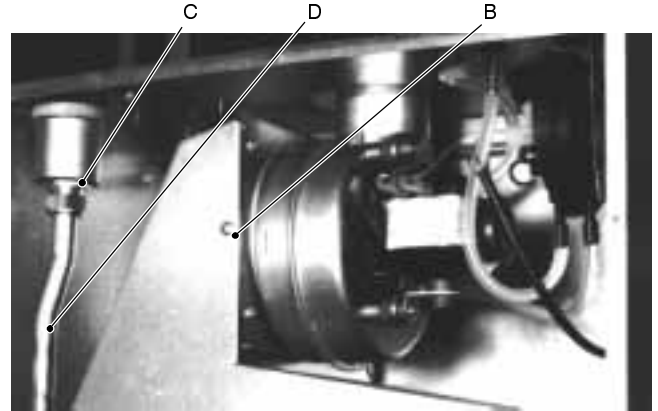

fig. 14
- 5 Remove the front part of the flue gas hood by unscrewing the screw B (fig. 14)
- 6 Unscrew the automatic air valve connection nut C and remove the valve (fig. 14);
- 9 Unscrew the pipe D (fig. 14) from the heat exchanger;